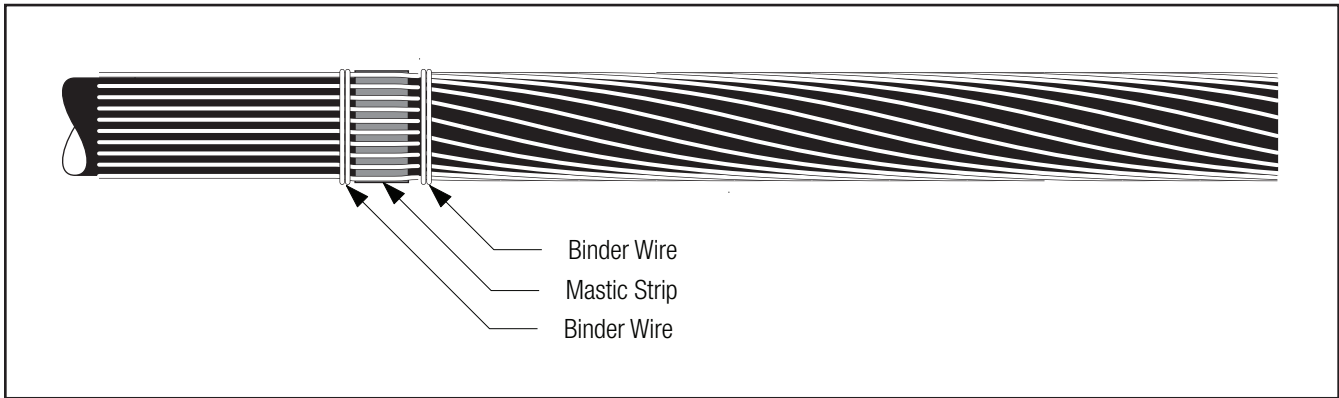

Figure 7
2.3.3 Place a strip of mastic around cable semi-con next to neutral binder. Fold neutrals into mastic and place another binder wire on the other side of the mastic (*Figure 7*).